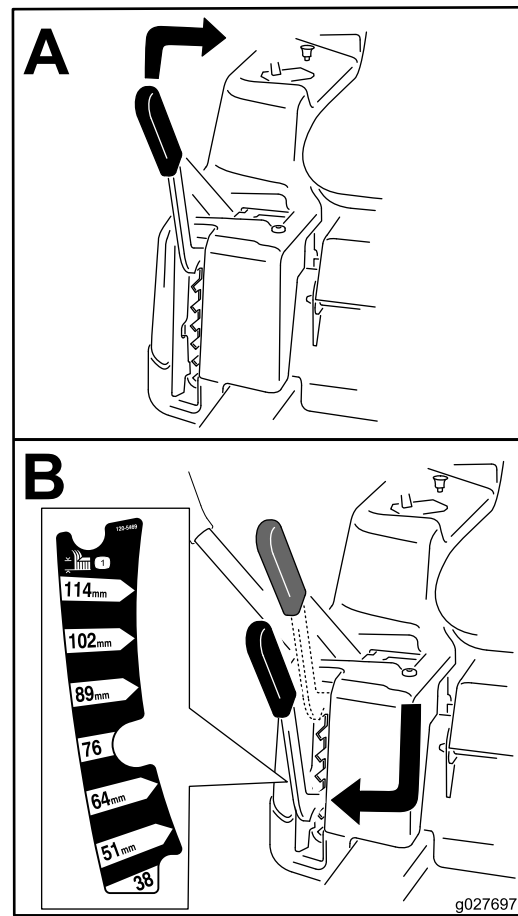

Figure 21
**Note:** The transport position is the highest height-of-cut position or cutting height at 115 mm (4-1/2 inches) as shown in Figure 21.
Height of cut is controlled by the lever located to the right of the operating position (Figure 21).